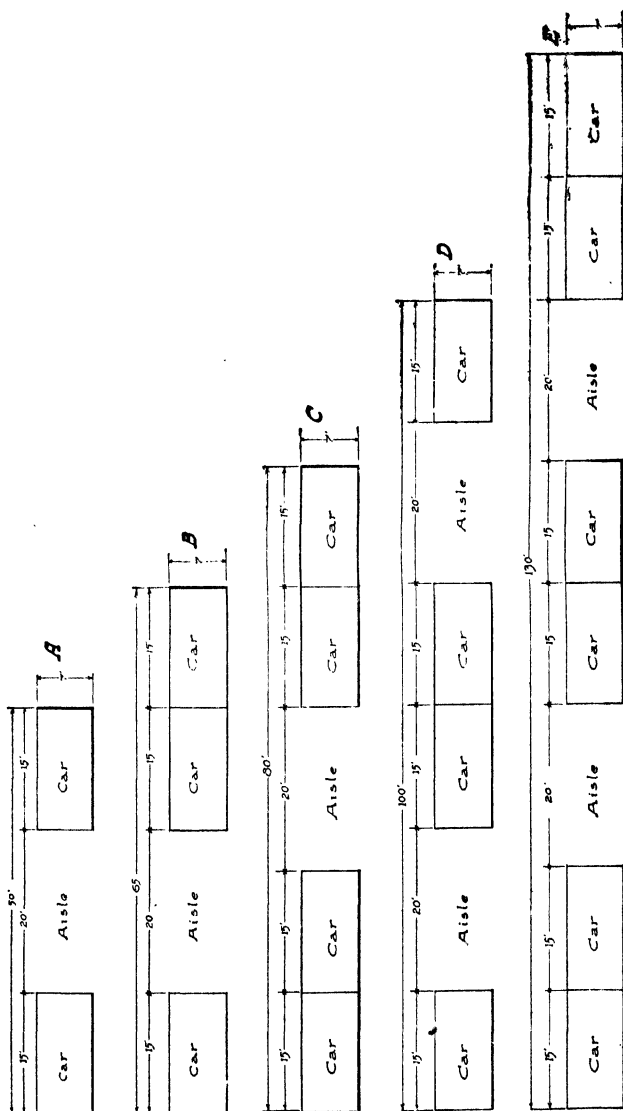

Fig. 1. Various Possible Arrangements for Garage Interiors
To make these more clear, Fig. 1, in which these five cases are shown, respectively, at *A*, *B*, *C*, *D*, and *E*, is presented. The depth needed per car is 7 feet; so the width having been determined, and one of the above five methods having been fixed upon as the best for the purpose, the total depth is found by dividing the number of cars to be housed by the number accommodated in one 7-foot width, and then multiplying this result by 7. Thus, suppose a narrow garage has been fixed upon, under scheme *B*, Fig. 1, which accommodates three cars in one width, or 7 feet. And suppose the total number of cars to be provided for is 90; then 3 goes into 90 30 times, and 30 times 7 gives 210 feet for the total depth. As this is deeper than lots usually run, it would be best to change to scheme *C*, which accommodates 4 cars per strip of width, thus 4 goes into 90 22 plus, and 22 times 7 equals 154 feet for the depth. Under certain conditions, a strip might be available straight through the block, so that instead of changing to scheme *C* we could go the other way, changing to *A* and making the garage narrower and longer.
**Modifications of Size Due to Situation.** If the garage is situated in a small town or in the country, it is possible to slightly trim the dimensions given. Thus, a Ford car needs but 12 feet; being uniformly narrower and turning shorter than other cars, it can be handled in a narrower aisle. This would mean that a garage entirely for Fords could have, under scheme *A*, Fig. 1, a width as little as  $12 + 15 + 12$ , or 39 or, in round figures, 40 feet. This is an unusual supposition,
allow the arrangement *B*, shown in Fig. 1. With this arrangement the building has room for 100 cars. There is provision for a small store, a stock room, office, toilets for men and women, wash rack, also fuel and oil pumps. The latter are placed at the street front, just inside the door. The building, although as long as the average block is deep, does not run through to another street, so there is no back entrance. This plan makes it possible for some cars to be placed at the back end of the aisle against the rear wall and as far forward as seems advisable, as indicated by the dotted lines. Despite the number of windows on all four sides, it is advisable to have several skylights in a building of this size and shape. In an old building altered for